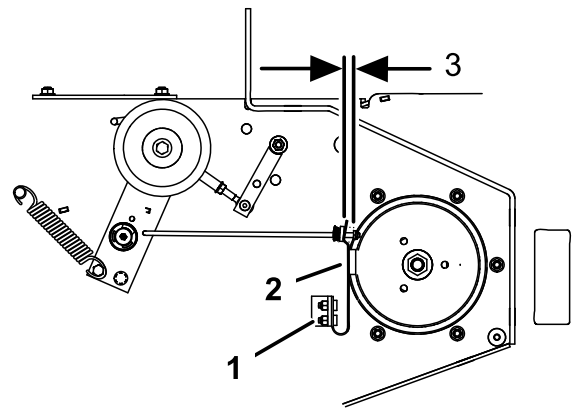

Figure 70
3. If necessary, adjust the spring mounting bolts so that the blade brake pad rubs against both sides of the pulley groove (Figure 70).
4. Adjust the nut at the end of the blade brake rod until there is 3 mm to 5 mm (1/8 to 3/16 inch) between the nut and spacer (Figure 70).